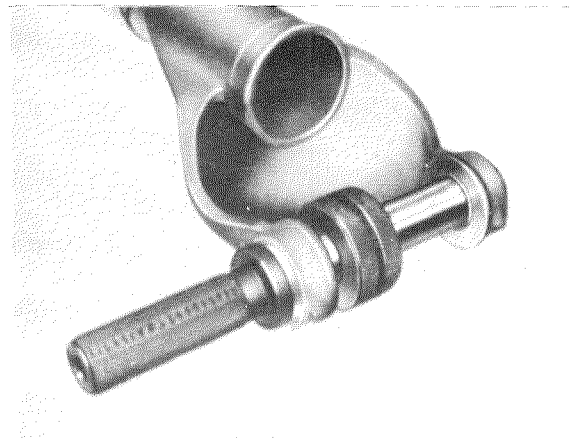

Fig. 35 — 5/15
14. Press the supporting tube out of the axle tube (Fig. 35 — 5/16).